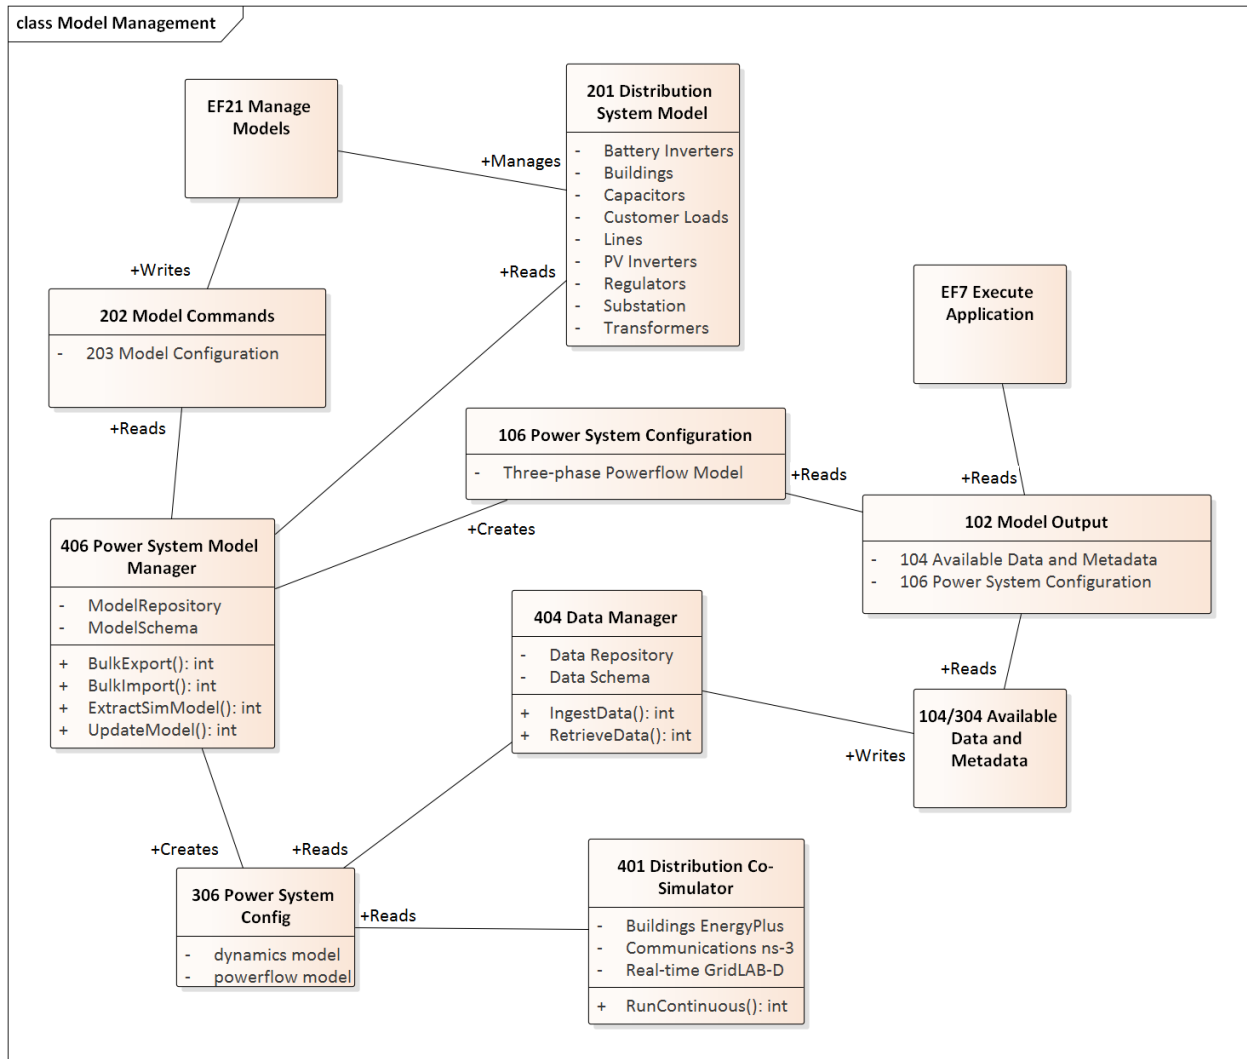

Figure 3: Internal model management
2. Phase modeling for EnergySource (Figure 3)
Figure 3 depicts the process of managing power system models, including the schema and repository within 201 Distribution System Model. Because it's based on standards (e.g. IEC 61968) and open-source tools (e.g. MySQL), the model can be created and maintained from outside GridAPPS-D, directly by EF 21, the Model Manager. This is shown at the top of Figure 3. This process is out of GridAPPS-D scope but within project scope, and it can leverage existing tools like Cimphony, Cimdesk, EA, etc.